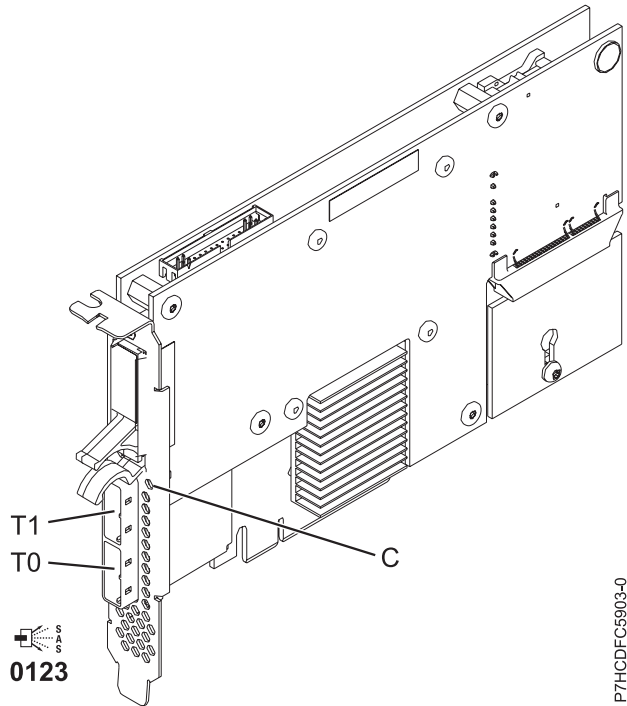

Figure 10. PCIe Dual - x4 3 Gb SAS RAID Adapter
The 5903 / 5805 contains a LED ((C) in Figure 10 on page 21) that flashes if the cache data is present. The cache-data present LED flashes when there is possible data in the cache on the adapter. If the cache data present LED is flashing, do not replace the cache battery pack. If replaced when the LED is flashing, the cache data is lost. See Figure 10 on page 21 to locate the cache-data present LED on this adapter.